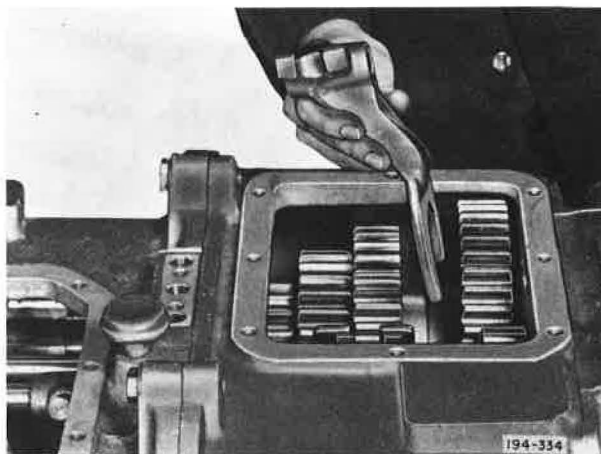

Figure 5-209. Installing Fourth and Fifth Speed Shifter Fork
25. Start fourth and fifth speed shifter rail in hole provided in front of case. Engage fourth and fifth speed fork with fourth and fifth speed sliding clutch. See Figure 5-209. Advance rail through hub of fork and intermediate bore until rail reaches neutral position. Install fork set screw and tighten to recommended torque. At this point, make sure the two shift rail welsh plugs are in place at the rear of the case.